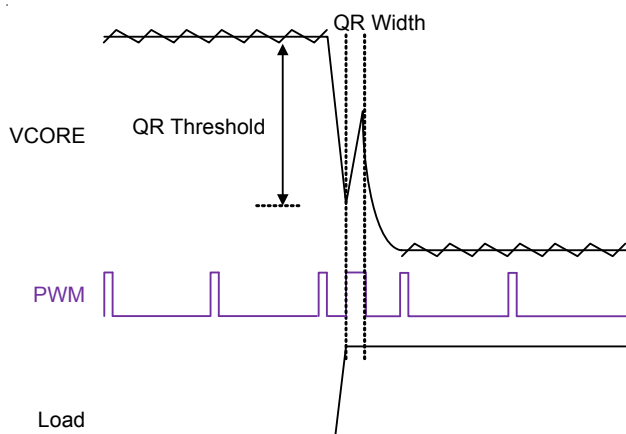
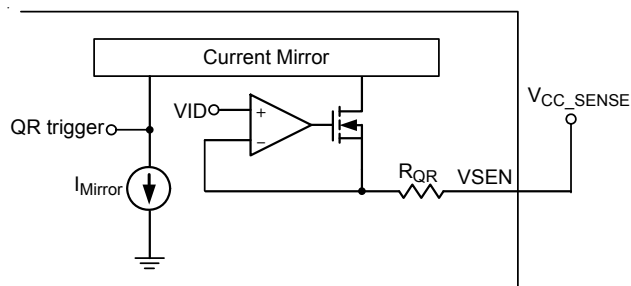

Figure 13. Quick Response Mechanism
Figure 14. Simplified QR Trigger Schematic
When the transient load step-up becomes quite large, it is difficult for loop response to meet the energy transfer. Hence, that output voltage generate undershoot to fail specification. The RT8171B has Quick Response (QR) mechanism being able to help improve this issue. It adopts a nonlinear control mechanism which can enlarge the on time of PWM signal at instantaneous step-up transient load to restrain the output voltage drooping, Figure 13 shows the QR behavior.
The output voltage signal behavior needs to be detected so that QR mechanism can be triggered. The output voltage signal is via a remote sense line to connect at VSEN pin that is shown in Figure 14. The QR mechanism needs to set QR width and QR threshold. Both definitions are shown in Figure 13. A proper QR mechanism set can meet different applications. The SET2 pin is a multi-function pin which can set QR threshold, QR width and ICCMAX.